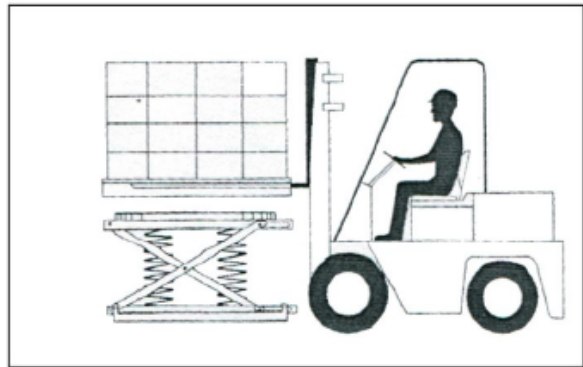

Fig. 11. Unloading with a forklift.
1. Insert the forks fully into the pallet, and lift the pallet straight up and clear of the top of the unit. See Figure 11.